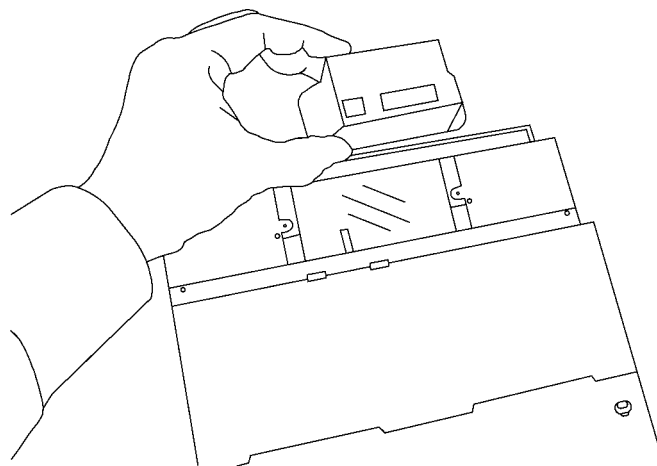

Figure 6.2-4
- (8) Remove the cable that connects the laser unit and the main PCB, and then replace the laser unit with a new one. (See Figure 6.2-4.)
- (9) After completing the replacement of the laser unit, scan a programming label “Clear Laser Diode Power Monitor in the EEPROM (0012345 70005X)” once after applying power to the scanner.